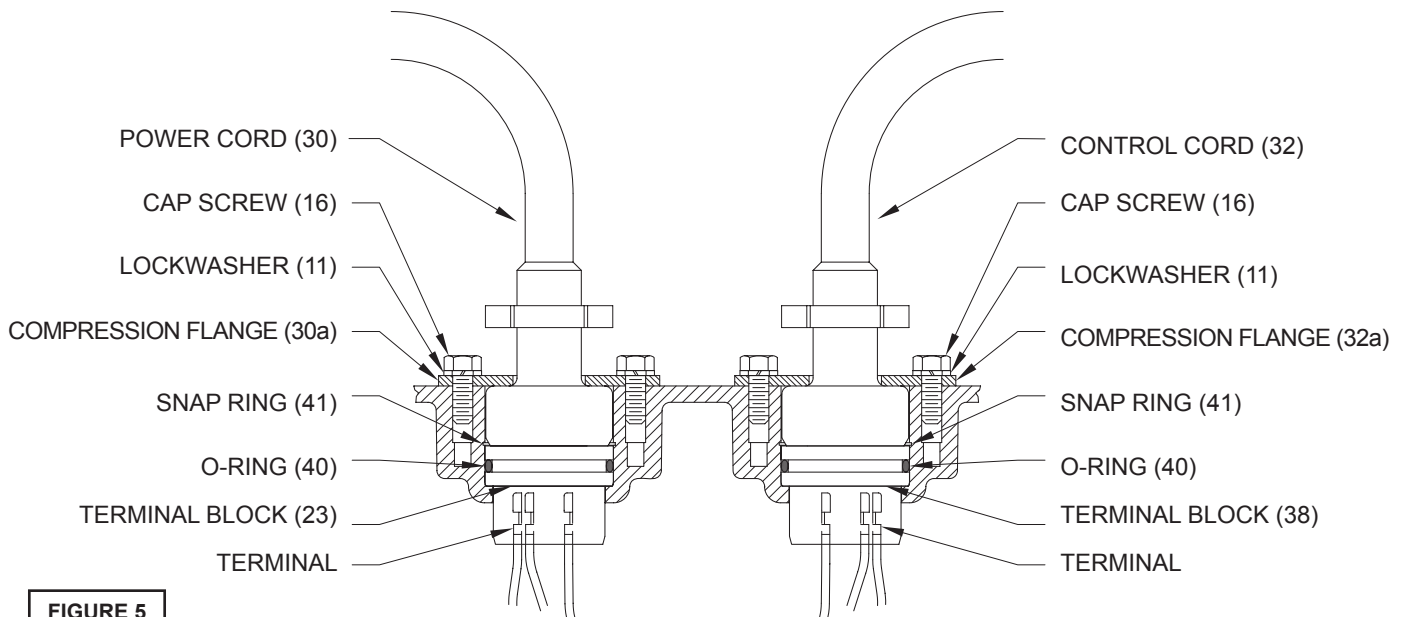

FIGURE 5
Position unit upright, using blocks to avoid resting unit on shaft. Unscrew cable hex bolts (16) and remove compression flange (30a) and power cord (30). Remove snap ring (41) with a flat head screwdriver. Pull the terminal block (23) out of the housing (5) using a T-bolt or pair of pliers and a 1/4"-20 screw in the threads of the terminal block (23). Be sure to leave slack on the motor leads connected underneath. Use needle nose pliers to pull each female connector off of the pins on the underside of the terminal block (23) (see Figure 5). The unit voltage should be noted. Repeat cable and terminal block removal procedure for any control cables (32) if equipped. Remove socket head cap screws (9). Vertically lift the motor housing (5) from seal plate (1) by lifting handle (17). Inspect square ring (8) for damage or cuts. Remove the motor bolts
Check power cables (30) and control cable (32, if used), for cracks or damage and replace if required (see Figure 5). Make internal wiring connections which are independent of the terminal block as shown in (Figure 10), using connectors (14), terminal (15) and wire assemblies (18) as required. Do not use wire nuts. Slip motor leads and ground wire through fiberglass sleeve. Lower motor housing (5) down onto seal plate (1) while aligning holes and stringing motor leads through the cable entry bore(s). (Slipping cords inside a 1 ft. length of .5" conduit makes this easier). Place socket head cap screws (9) through seal plate (1) into motor housing (5) and torque to 60 in-lbs.
Reconnect motor and optional control leads to the underside of the terminal block(s) (23), (38 optional) as shown in Figure 5. Note that the pins are numbered underneath the terminal block. Place o-ring (40) into groove in terminal block and lubricate with dielectric oil. Press the terminal block (23) (38 optional) into the housing so it seats completely below the snap ring groove. Place snap ring (41) into groove in cable entry bore of housing. Repeat terminal block installation for control cable, if equipped.